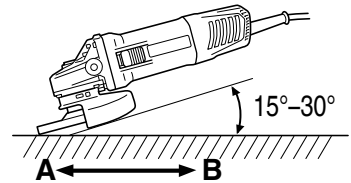

Fig. 6
Do not apply the entire surface of the depressed center wheel to the material to be ground. As shown in Fig. 6, the machine should be held at an angle of 15°–30° so that the external edge of the depressed center wheel contacts the material at an optimum angle.
4. To prevent a new depressed center wheel from digging into the workpiece, initial grinding should be performed by drawing the grinder across the workpiece toward the operator (Fig. 6 direction B). Once the leading edge of the depressed center wheel is properly abraded, grinding may be conducted in either direction.